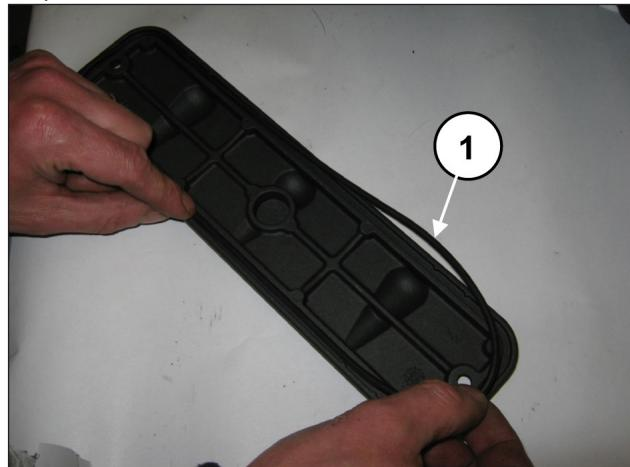
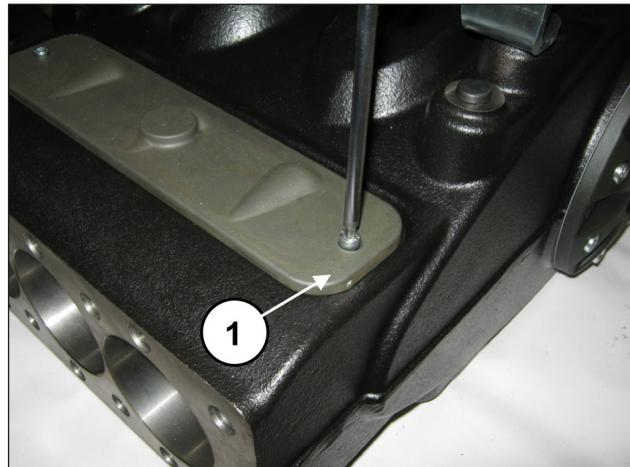

Fig. 93
Fig. 94
Apply the inspection covers with O-rings (pos. ①, Fig. 93) and tighten with 2 M6x14 screws (pos. ①, Fig. 94) and 2 M6X40 screws.